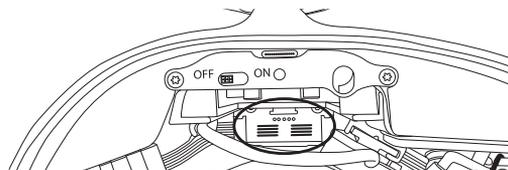

Figure 26
To correctly set the switches (fig. 26) follow the instructions given by the following images (fig. 25), bearing in mind that the switches control the relative bulkhead on the same side.
- Unscrew the screw that keeps the handle fixed; (fig. 26)